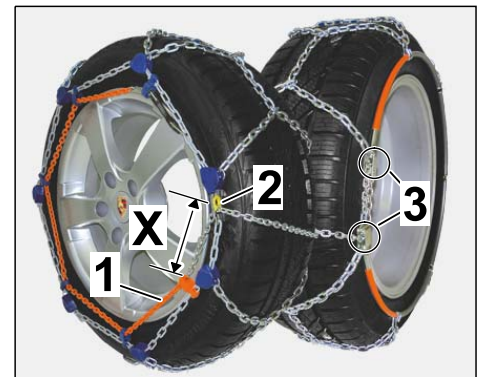

Figure 15
2.4 Check that the snow chain is installed correctly on the wheel (⇒ *Figure 15*)
- The area marked in red on the tensioning chain must be pulled completely through the slot on the locking plate. The distance between the area marked in red and the slot on the locking plate (dimension X ⇒ *Figure 15 -X-*) can vary depending on the tire size.
- Position of deflection roller/tensioning points (inside of wheel ⇒ *Figure 15 -3-*): Must **NOT** be lying on the running surface of the tire or touching the road.